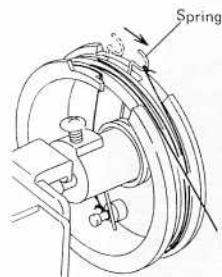

Fig. 5
8. Tie it to the spring hook, making sure there is sufficient tension in the cord (see Fig. 5).